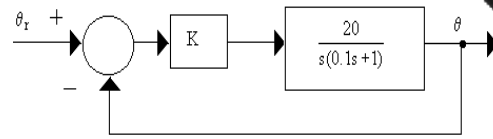

Fig. 2
Q.31 Consider the position control system of Fig.2. The value of K such that the steady state error is 10° for input $\theta_r = 400t$ rad/sec, is
- (A) 104.5
- (B) 114.5
- (C) 124.5
- (D) None of the above.